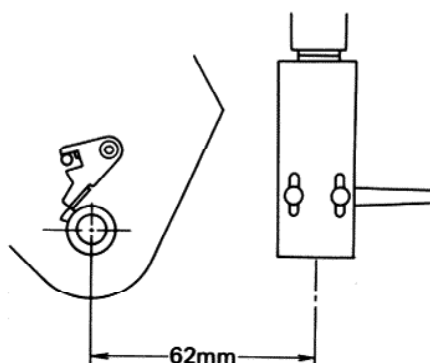
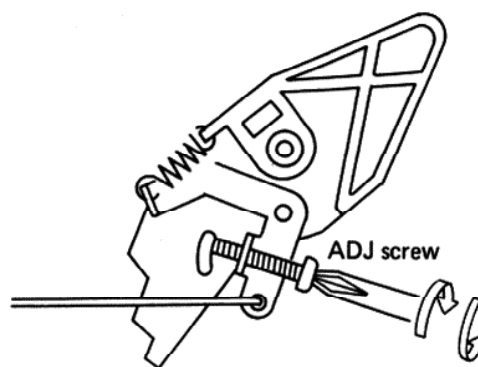

Fig. 41
Fig. 42
5. At this time, so that distance indicated in Fig. 41 becomes $62 \pm \frac{0}{2}$ mm, adjust screw shown in Fig. 42.